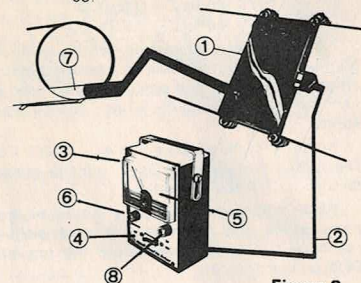

Figure 3
A Connect cable (2) to exhaust pickup (1) and the analyzer (3) as shown in Figure 3.